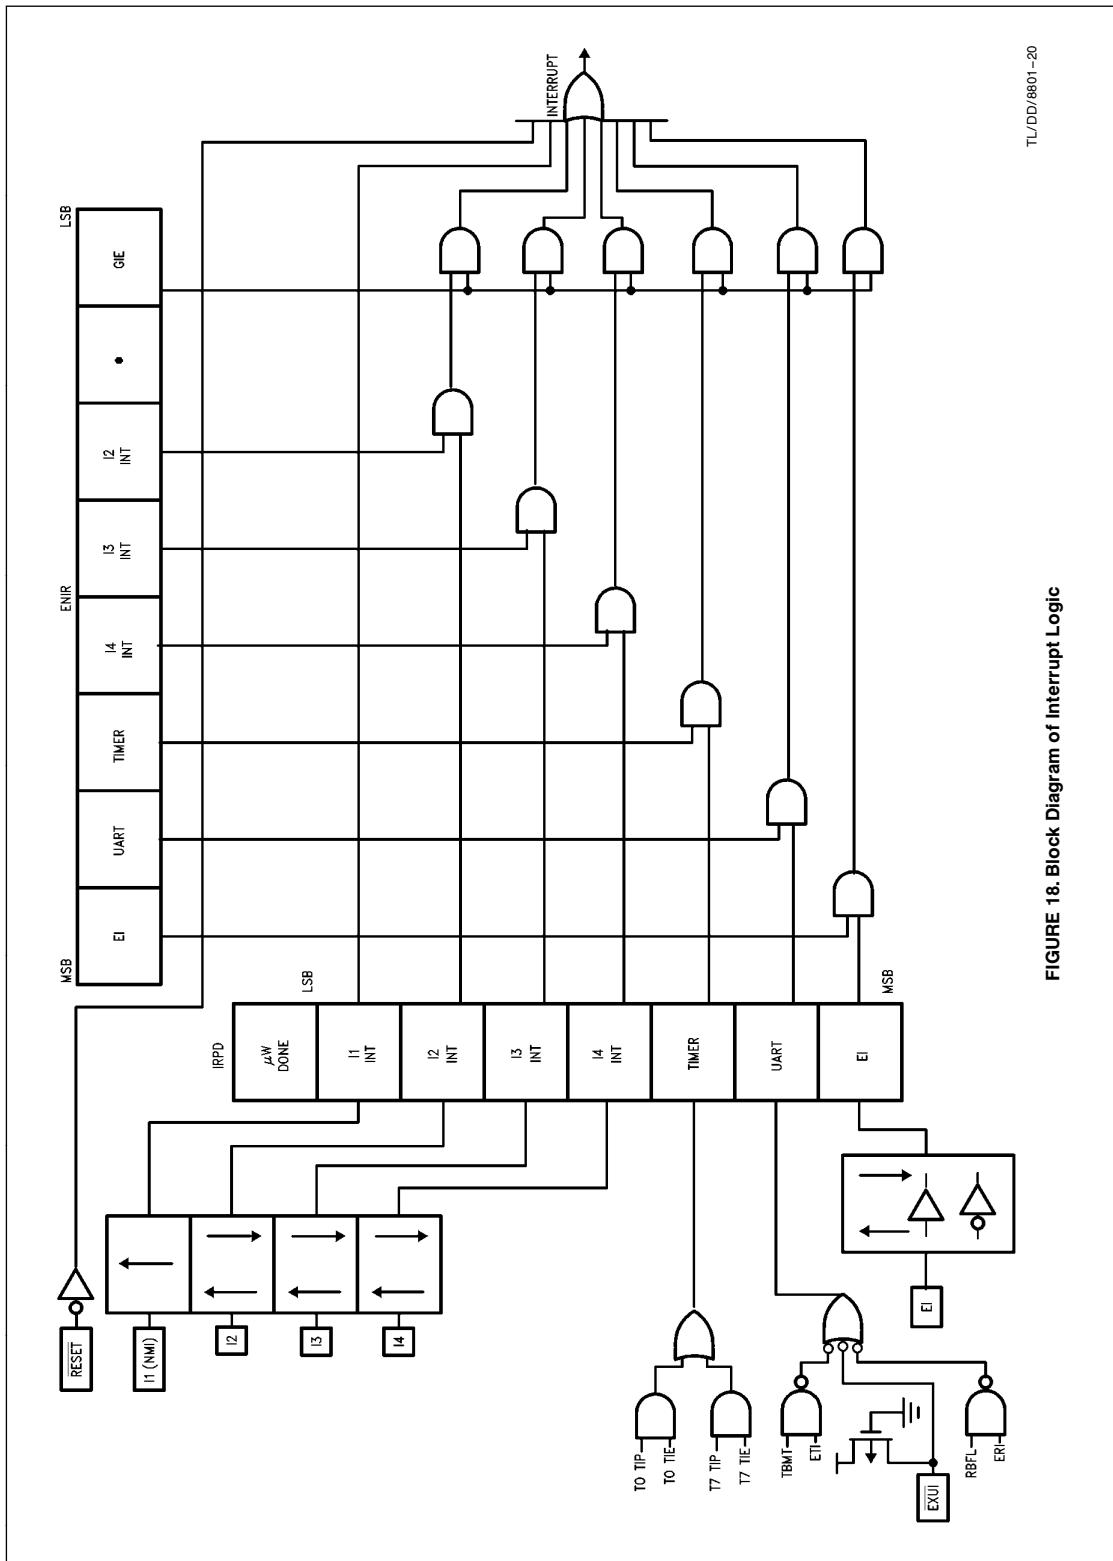

FIGURE 18. Block Diagram of Interrupt Logic
The Interrupt, once acknowledged, pushes the program counter (PC) onto the stack thus incrementing the stack pointer (SP) twice. The Global Interrupt Enable bit (**GIE**) is copied into the **CGIE** bit of the **PSW** register; it is then reset, thus disabling further interrupts. The program counter is loaded with the contents of the memory at the vector address and the processor resumes operation at this point. At the end of the interrupt service routine, the user does a **RETI** instruction to pop the stack and re-enable interrupts if the **CGIE** bit is set, or **RET** to just pop the stack if the **CGIE** bit is clear, and then returns to the main program. The **GIE** bit can be set in the interrupt service routine to nest interrupts if desired. *Figure 18* shows the Interrupt Enable Logic.